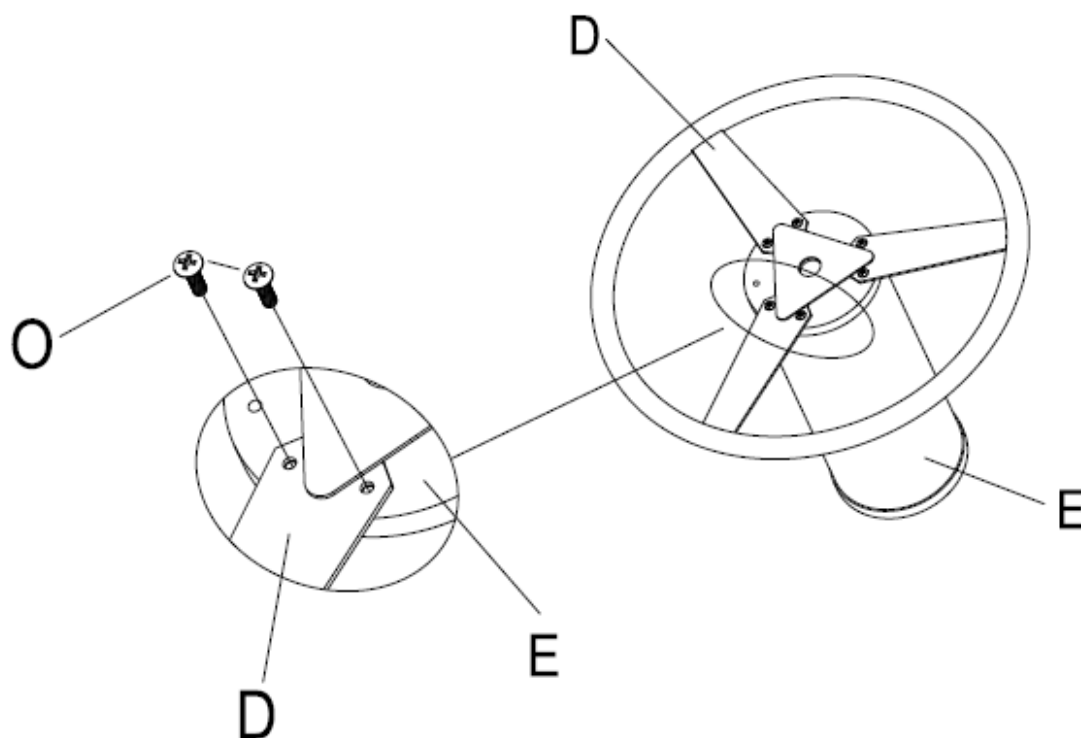

Figure 5
Step 5: Attach one Drum Rim (D) to the Side of the Enclosed Drum (E) using six Bolts (O). See Figure 5.